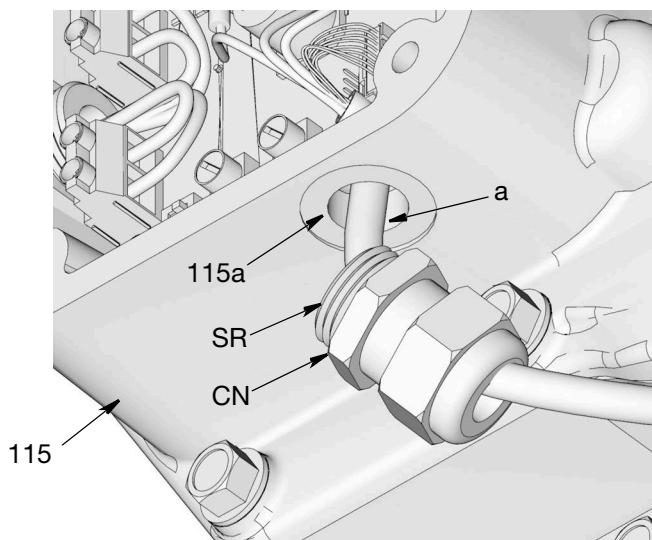

FIG. 60
4. Feed the motor wire harness (a) through the strain relief opening (115a) in the housing (115) (FIG. 60).